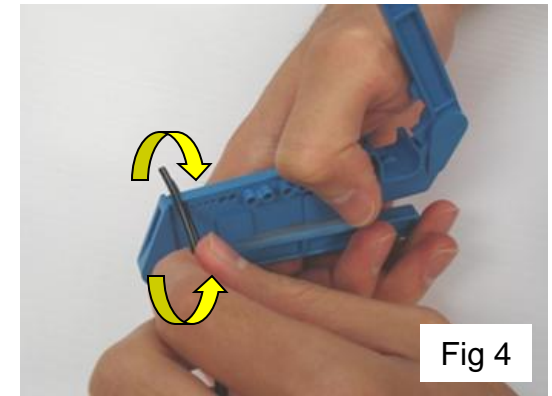

Fig 4
- Strip about a half inch of jacket off of the first fiber (Figure 4). Note: To strip the fiber, insert the fiber into the tool and close the tool. While the tool is closed, rotate the tool in a circular motion a few times and then pull outward to remove the jacket.